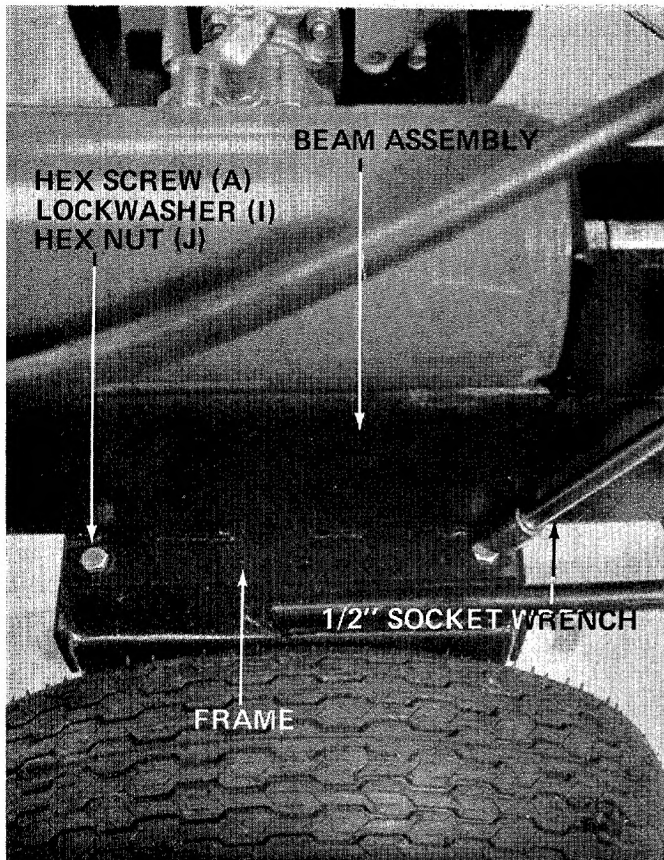

FIGURE 6
6. With help from another person, place beam assembly on frame and line up four holes, secure with four hex screws (H), lock washers (I) and hex nuts (J). See figure 6. Two 1/2" wrenches or socket is required.